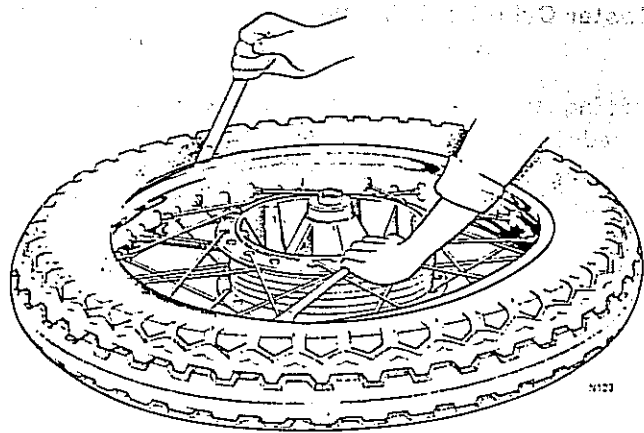

Fig. H19 Two tire levers in use to remove first bead of tire
- 8 Remove the first lever and re-insert at the next stage, continuing round the rim a little at a time (see Fig. H19) until the beading can be pulled clear of the rim.
- 9 Remove the first lever and re-insert at the next stage, continuing round the rim a little at a time (see *Fig. H19*) until the bead can be pulled clear of the rim.